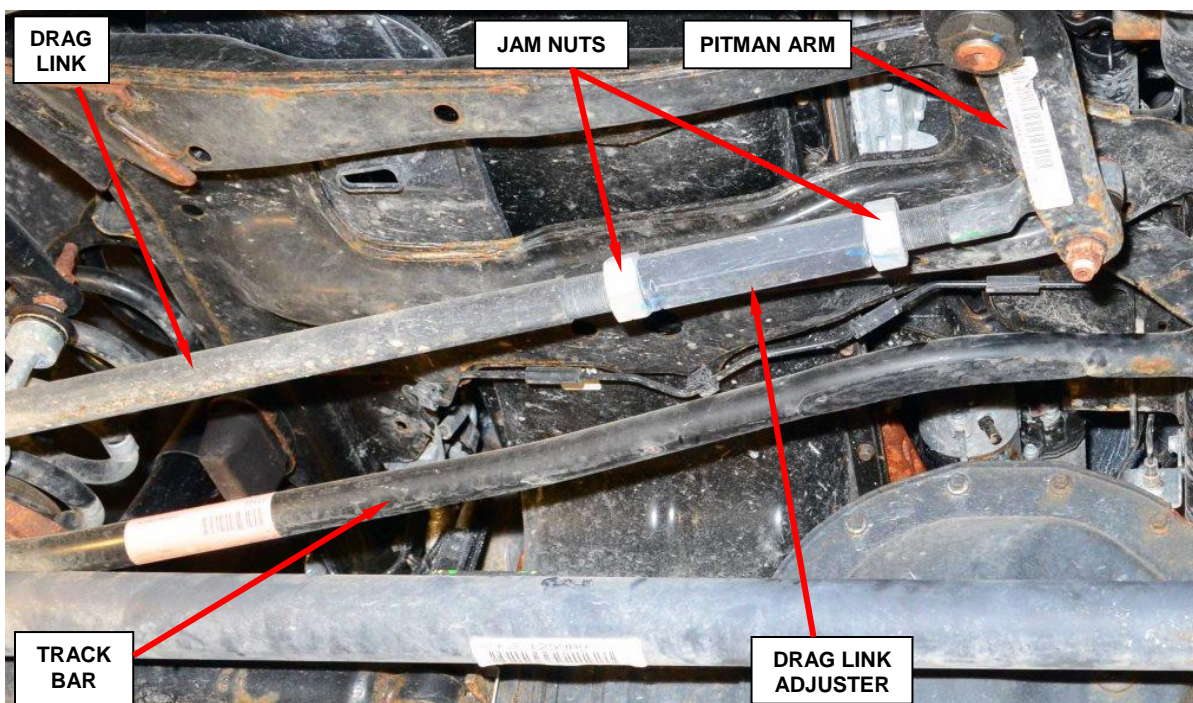

Figure 32 – Drag Link Adjuster and Jam Nuts
73. Loosen the drag link adjuster jam nuts on the drag link and adjust the drag link length as required (Figure 32).